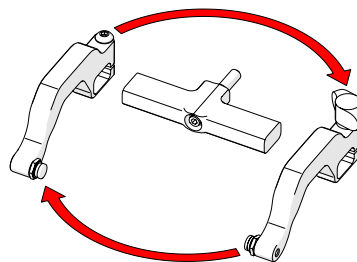

Fig. 120 - Reverse position around yoke
4. Position the removed arms on the opposite sides of the yoke (Fig. 120).